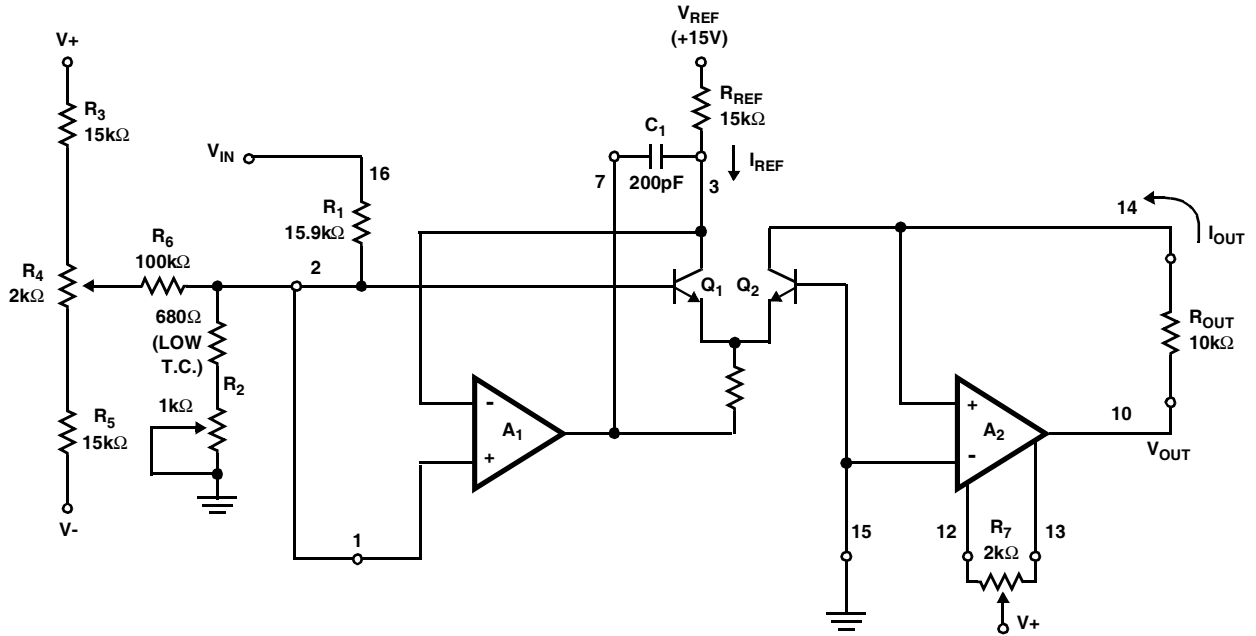

FIGURE 1. ICL8049 OFFSET AND SCALE FACTOR ADJUSTMENT
The ICL8049 relies on the same logarithmic properties of the transistor as the ICL8048. The input voltage forces a specific ΔV_{BE} between Q_1 and Q_2 (Figure 1). This V_{BE} difference is converted into a difference of collector currents by the transistor pair. The equation governing the behavior of the transistor pair is derived from (2) on the previous page and is as follows:
As with the log amplifier, the antilog amplifier requires three adjustments. The first step is to null out the offset voltage of A_2 . This is accomplished by reverse biasing the base-emitter of Q_2 . A_2 then operates as a unity gain buffer with a grounded input. The second step forces $V_{IN} = 0$; the output is adjusted for $V_{OUT} = 10V$. This step essentially "anchors" one point on the transfer function. The third step applies a specific input and adjusts the output to the correct voltage. This sets the scale factor. Referring to Figure 1 the exact procedure for 1 decade/volt is as follows: